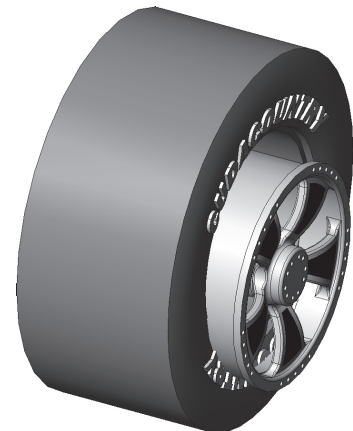

Fig. 2
- Step 8. Click approximately where Tire is positioned in **Fig. 2**. Click OK  in the Property Manager when done.